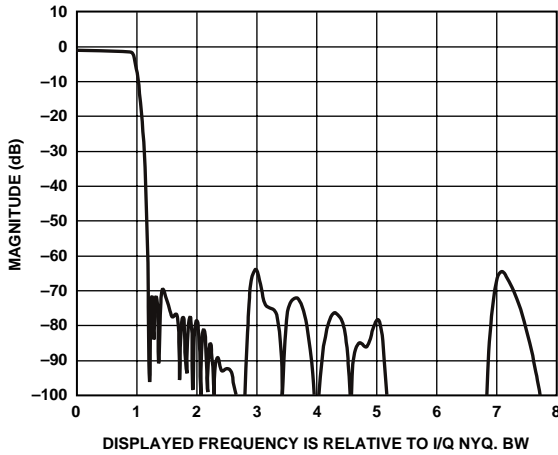
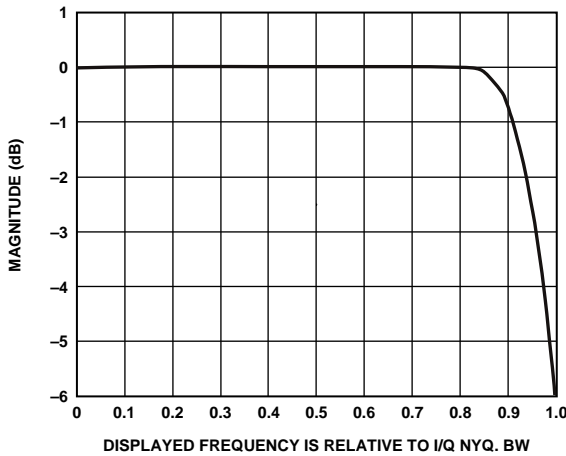

Figure 33. Half-Band 1, 2, and 3 Frequency Response
Figure 34. Pass-Band Detail: Combined Frequency Response of HBF 1 to 3
In applications requiring both a low data rate and a high output sample rate, a third HBF is available (HBF 3). Selecting HBF 3 offers an upsampling ratio of eight (8) instead of four (4). The combined frequency response of HBF 1, 2, and 3 is shown in Figure 33 and Figure 34. Comparing the pass-band detail of HBF 1 and 2 with the pass-band detail of HBF 1, 2, and 3, HBF 3 has virtually no impact on frequency response from 0 to 1 (where 1 corresponds to f_{NYQ}).